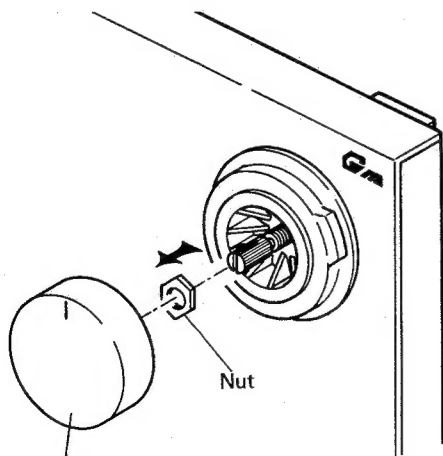

Fig. 12
2. Remove the front panel. Pull out the volume knob, and remove the nut (Fig. 12).